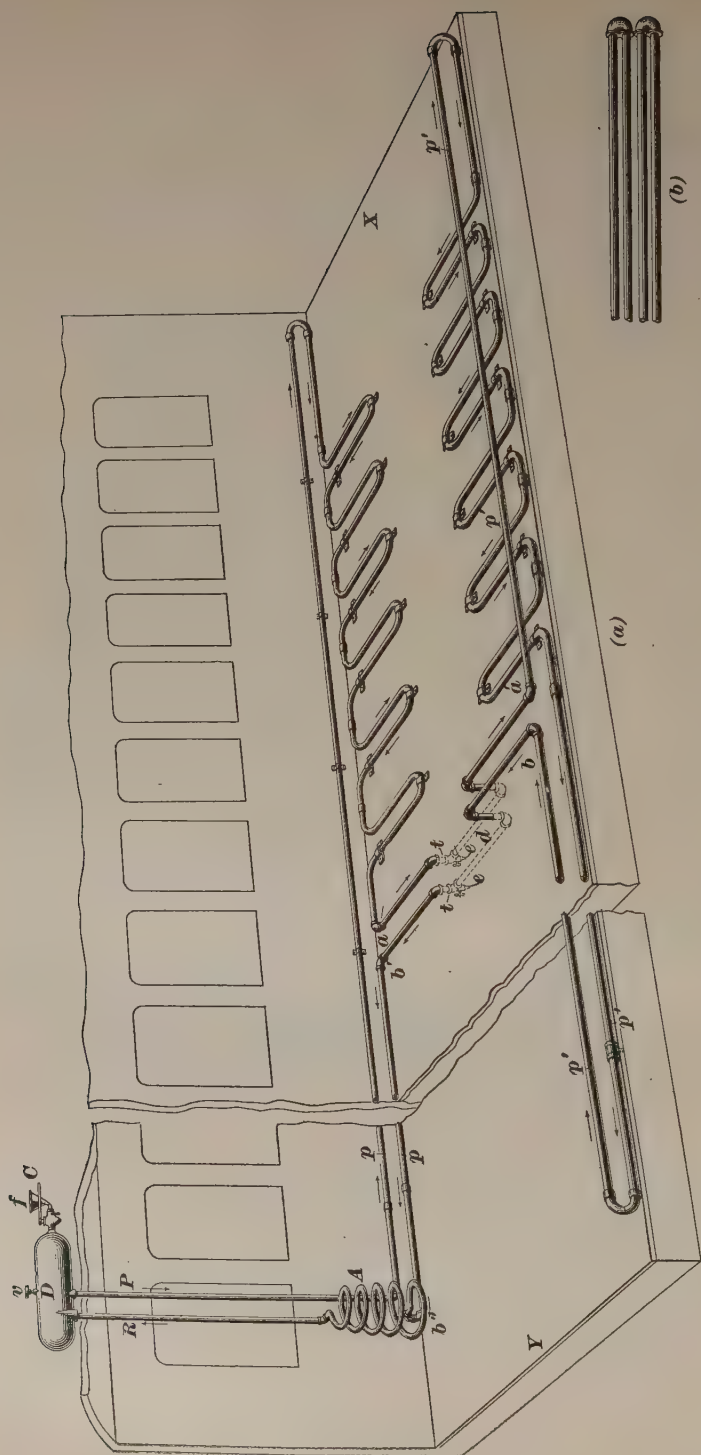

FIG. 3
heated, there must be a chamber for it to expand into; when it cools off and contracts, the water in the expansion drum keeps the pipes full. The drum is placed horizontally, as in Fig. 3. The cock *C* is located so as to utilize the lower half of the drum for water storage. The upper half serves as an air chamber, which acts as an expansion chamber, and is
5. The Car Piping.—Fig. 3 shows a method of piping a car for the Baker system of heating. The expansion drum *D* is placed horizontally on the roof, while the heater, represented here by the heater coil *A*, is placed as low down as practicable; namely, on the floor of the car. *R* is the hot-water riser, or upflow pipe, through which the heated water ascends into the drum *D*; *P* is the pipe through which it descends into the car again on its circuit through the latter. Near the floor of the car, pipe *P* joins with the line of piping *p*, which runs to the far end *X* of the car, then turns, and in a series of loops, under the seats, comes back to point *a*, where it crosses over to the other side, makes a turn at *a'* and runs through the pipe *p'* to the same end *X* as before; thence it returns in a series of loops, makes the return bend at end *Y*, recrosses the car at *b*, and
The later method of arranging the piping is to put it in four lines next to the truss plank along each side of the car with the same arrangement of cross-over pipes, shown in Fig. 3 (*b*).